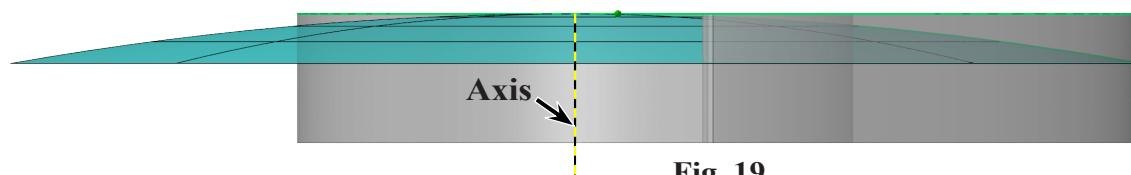

Fig. 19
Step 5. Click vertical line for axis of rotation, Fig. 19.